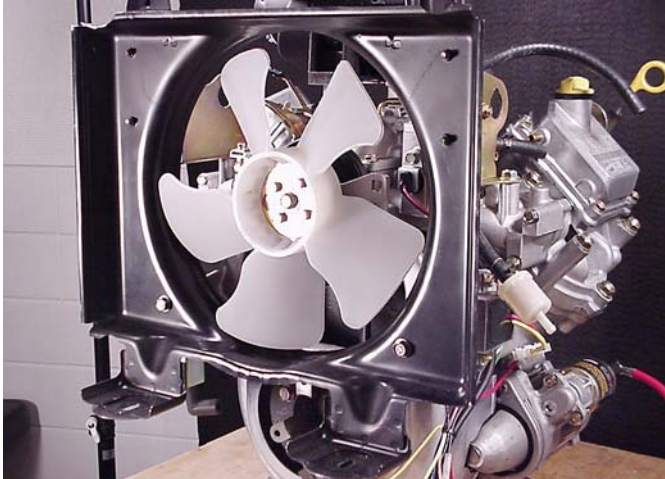

Fig. 172
1. Install fan shroud assembly, Fig. 172. Torque screws to **140 in. lbs. (16.0 Nm)**. Maintain a 1/8" (3 mm) gap between the shroud and the radiator to prevent wear from vibration.